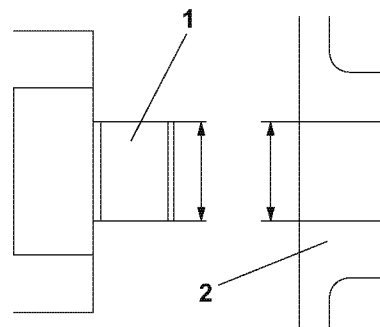

Figure 9-9
Inspect the rotor shaft clearance. Measure the outside diameter of the rotor shaft (Figure 9-9, (1)) and the inside diameter of the cover.